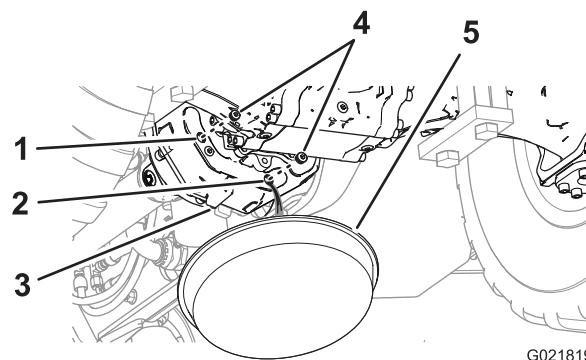

Figure 74
1. Place a drain pan under the back side of the transmission housing (Figure 74).
2. Remove the plugs from the drain port and the sight port in the transmission housing (Figure 74).